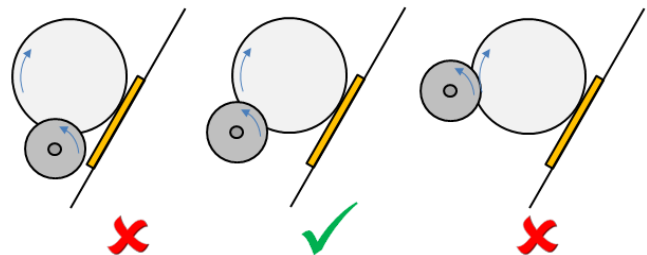

Fig. 70: Left image: Bad – sample too close / Center image: Correct / Right image: Bad – sample too far
- the sample is placed at a correct distance from the shaft - refer to the following Notice and Fig. 70 [► 26], adjust and lock the hydraulic arm using the three-adjustment knob, to ensure the contact ball/sample.